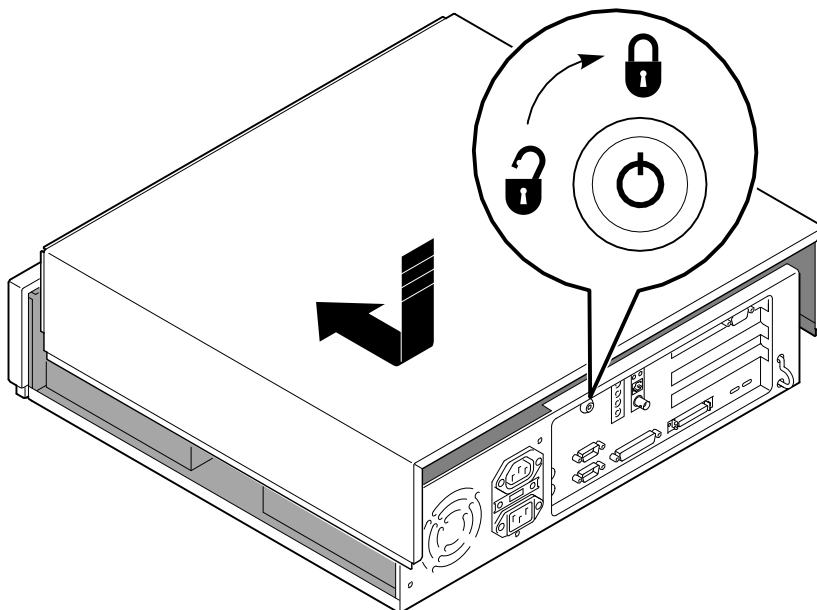

Figure 3-24. Replacing and Locking System Cover
4. Lock the system cover, as Figure 3-24 shows.